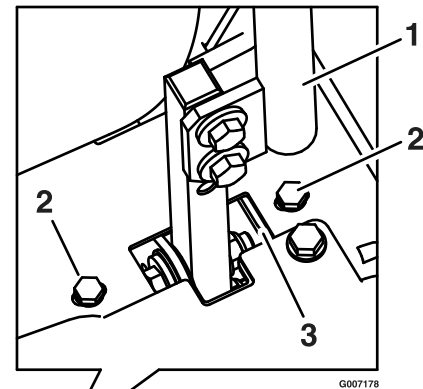

Figure 4
6. If the machine turns right or left when handles are pushed forward together, adjust the stop on the side opposite the direction of turn (see Figure 4). Loosen the screws that hold the motion control limiter stop. Move the stop back until the unit drives straight. Tighten the screws to lock the stop in place. Readjust handles if necessary.